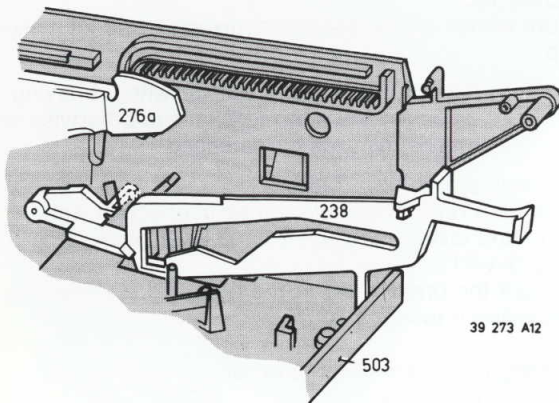

Fig. 3-1-22
- Thread until the lift drive lever pos. 276-B is in vertical position.
- Pull out the lift cover lever toward the left (Fig. 3-1-22).